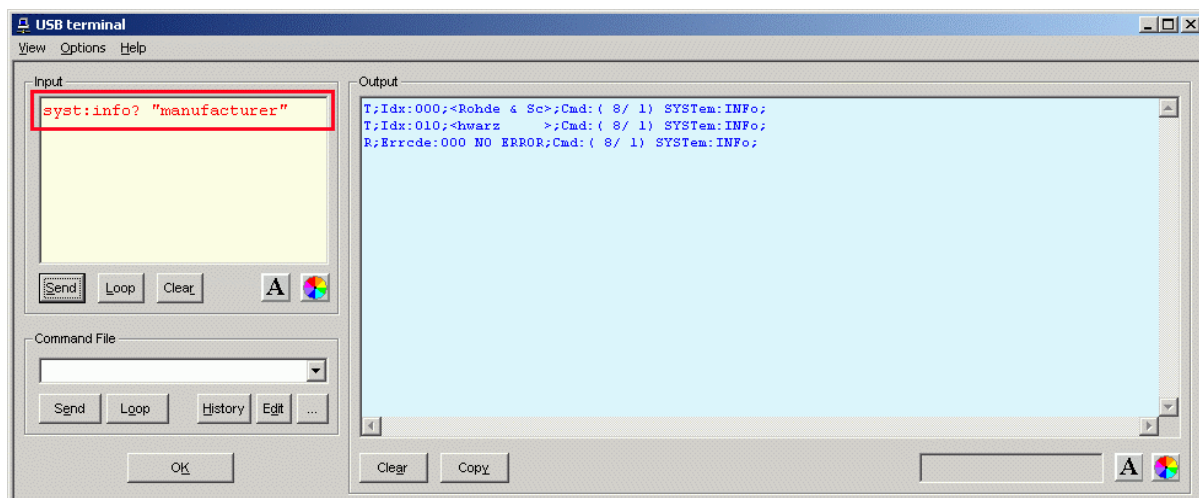

Fig. 3-1 Sending commands using the **Input** field
| Fig. 3-1 | Sending commands using the Input field .....                             | 3.1  |
- Commands are entered in the **Input** field (Fig. 3-1). Consecutive commands can be entered as separate lines, one below the other. The buttons associated with the **Input** field are described in Table 3-1.